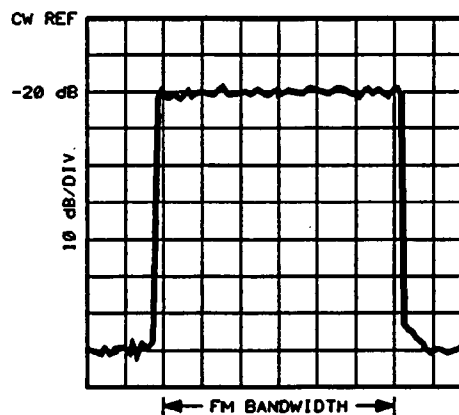

Figure 8-2. FM Bandwidth Measurement
12. Measure the FM bandwidth on the spectrum analyzer. The FM bandwidth is measured by noting the two points on the displayed spectrum where all sidebands drop to less than 20 dB below the unmodulated carrier level. Refer to Figure 8-2.